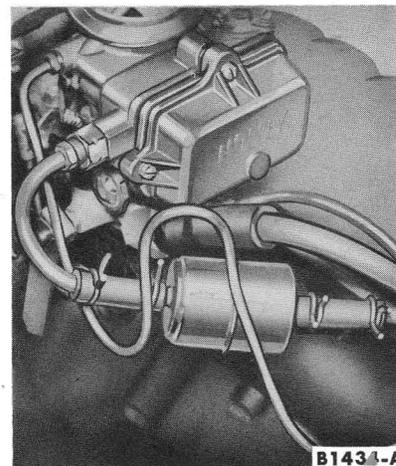

FIG. 13—Fuel Filter Installation
6. Replace Fuel Filter. Slide the clamps closest to the filter away from the filter (Fig. 13). Slide the new filter into the rubber connections and slide the clamps into place. **Be sure the arrow on the filter is pointed toward the outlet of the filter.**